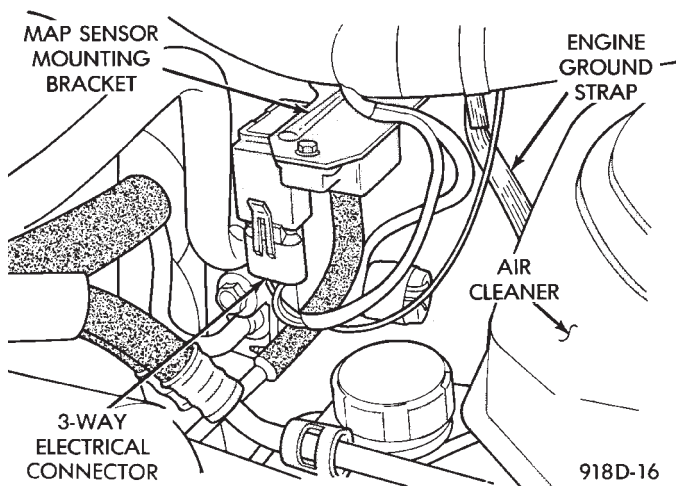

Fig. 38 Manifold Absolute Pressure (MAP) Sensor—2.2L and 2.5L TBI Engines
- (1) Remove vacuum hose and remove mounting screws from sensor (Fig. 38, 39 and 40).
- (2) Remove wiring harness and remove sensor.
- (3) Reverse the above procedure for installation. Check that vacuum hose is attached to vacuum source.